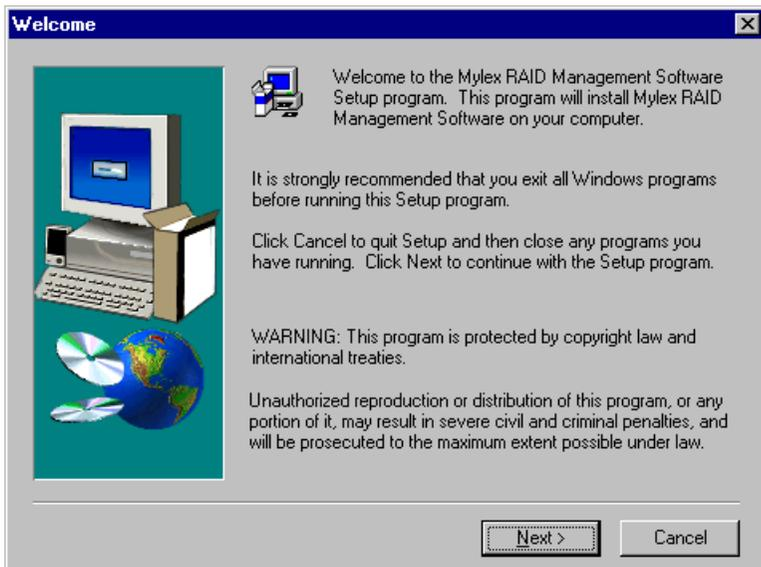

Figure 2-3. Welcome Dialog Box
4. After a few moments, the Welcome dialog box appears (Figure 2-3). Click Next to proceed with the installation, or click Cancel to end the installation procedure and return to the menu.